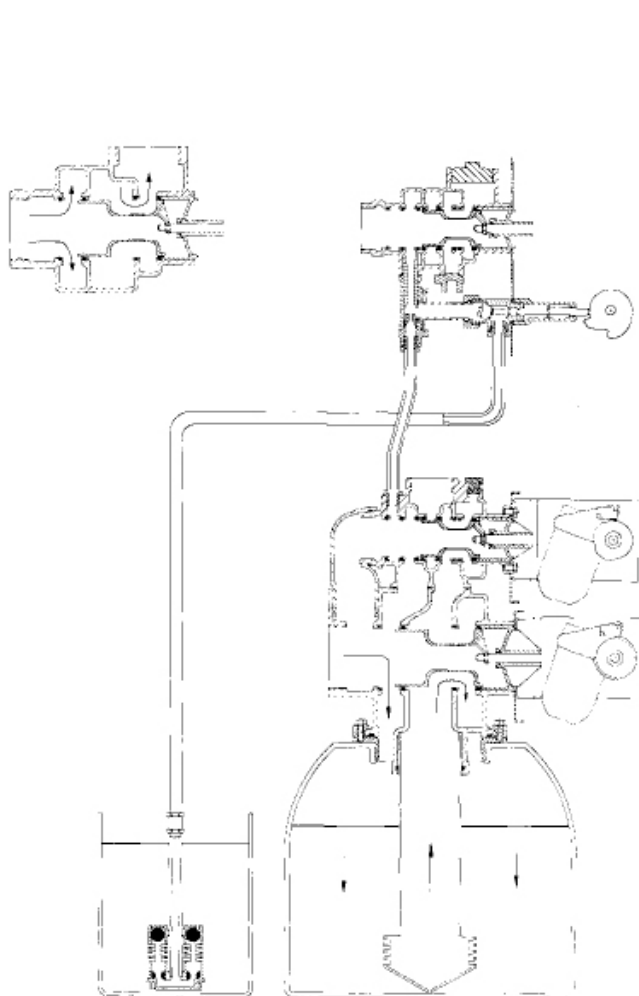

Figure 52. Service position.
3. Conditioned water flows up through the center tube, around the piston and out the side outlet of the valve. See Figure 52.